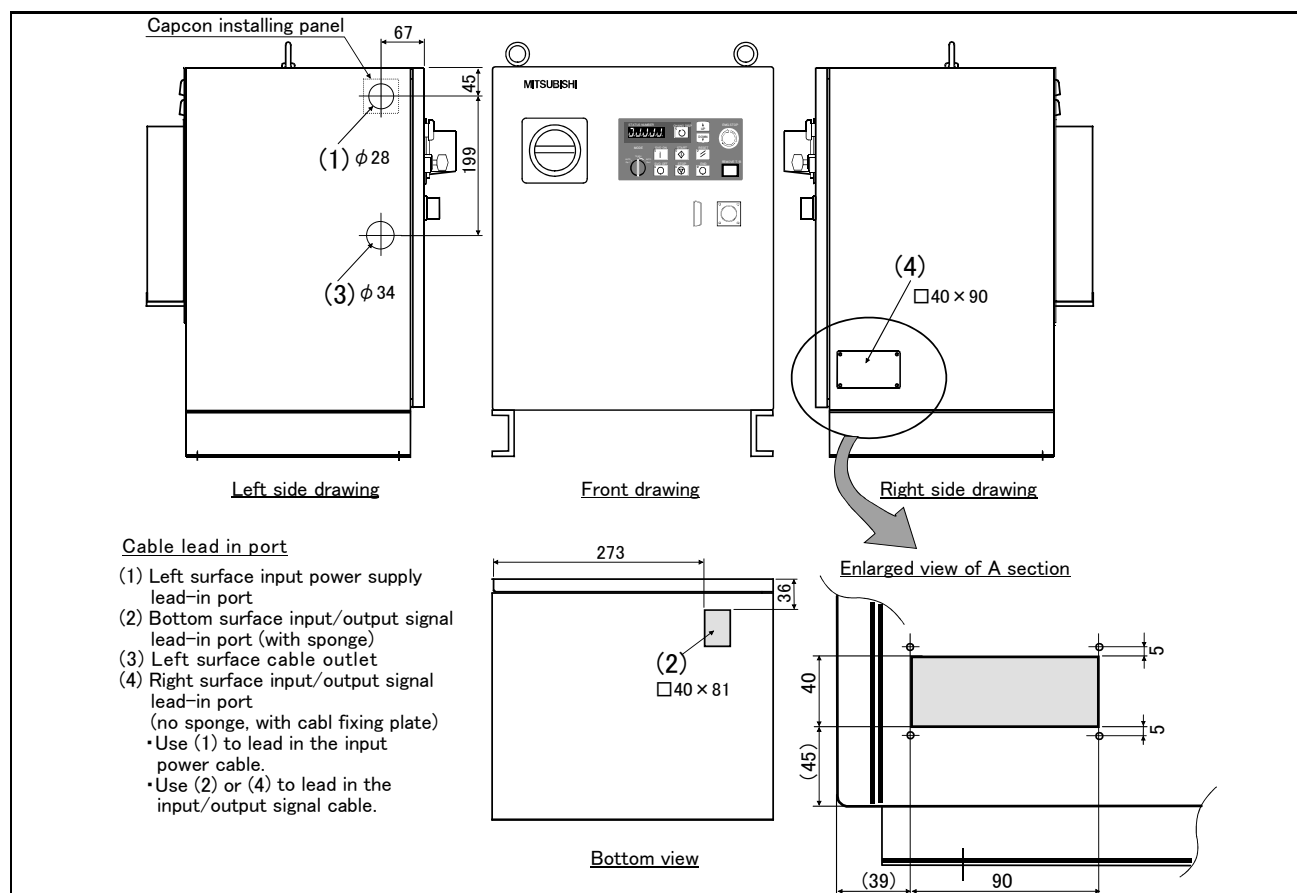

Fig.3-7 : Cable lead-in ports and dimensions
The controller has the openings (1) to (4) as shown in Fig. 3-7.